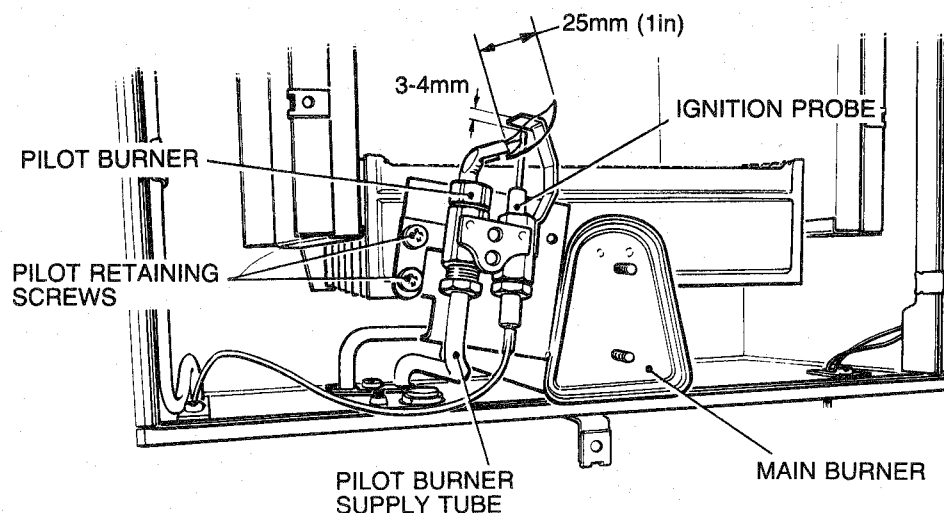

FIG. 23
8.5 TO REPLACE THE MAIN BURNER (Fig. 23)
8.6 TO REPLACE THE PILOT BURNER and/or SPARK ELECTRODE (Fig. 23)